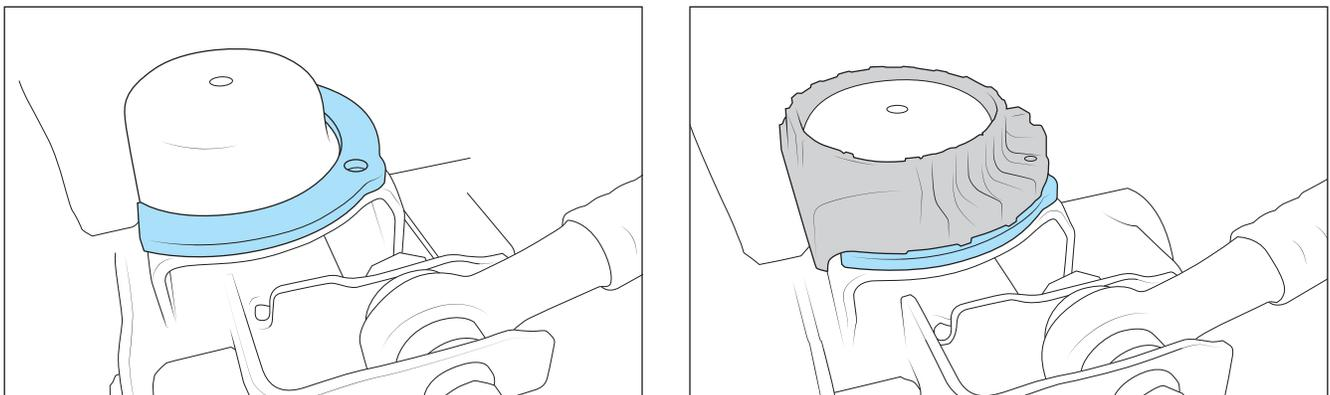

Figure 18
- A. Remove passenger lower spring isolator by carefully prying it upward away from axle. Install front spring shim to bottom of isolator, passing molded stud through hole in shim. Reinstall assembly onto axle spring seat (Fig 18). JL has more weight on right side of vehicle than left, so this helps it sit level. Shim sits underneath isolator on axle.